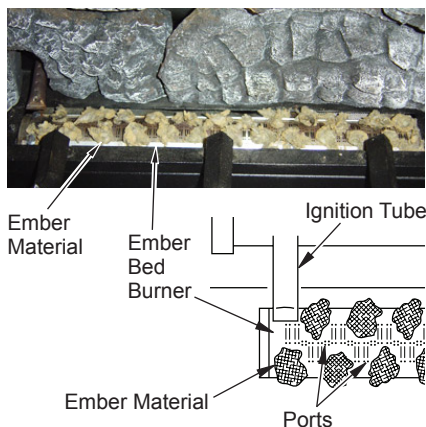

Figure 26 - Placement of Embers
5. Add embers to front ember bed burner. Separate pieces of ember material into nickel size pieces, pull apart and place on surface of ember bed burner as shown in Figure 26. **Do NOT place ember material directly on top of ports. Do NOT place ember material in area of pilot or rear burner.**
**WARNING:** Do not operate unit without ember material correctly in place as shown in Figure 26, page 18. Do NOT place ember material anywhere else on the unit. Use only ember material supplied with unit. Excessive or incorrectly placed ember material may produce carbon monoxide or soot.